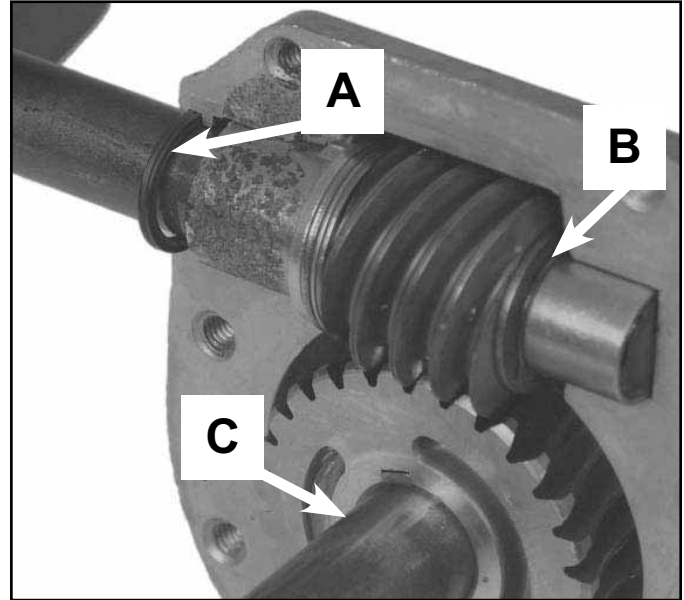

Fig 089
4. The impeller shaft can now be removed (Fig. 089).